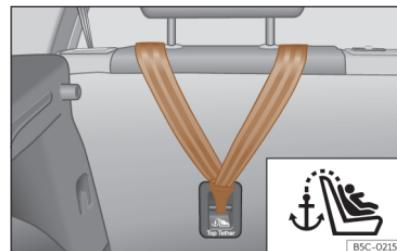
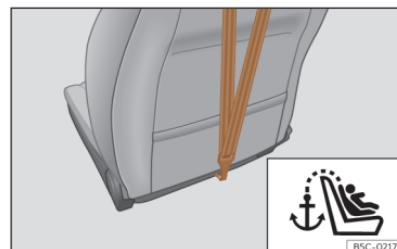

Fig. 57 Rear part of the rear seats: Top Tether strap anchor.
Fig. 58 Rear of front passenger seat backrest: Top Tether strap anchor (not available on all markets).
- Slide the strap and secure it properly with the anchor on the rear seat backrest **>>> Fig. 57 , >>> Fig. 58.**